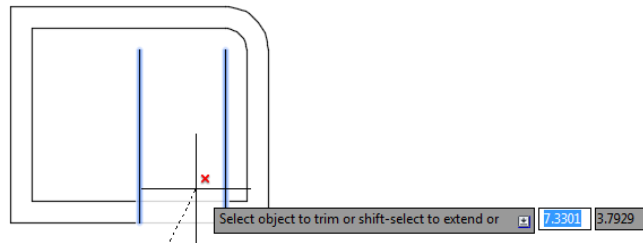

FIGURE 2.33: Lines selected to be trimmed
4. Your command line now reads `Specify first fence point: .` Using the Fence method, you will draw an imaginary line through the objects you want to trim. Use your cursor to draw a line that crosses the two horizontal lines across the opening, somewhere between the cutting-edge lines (see Figure 2.33).